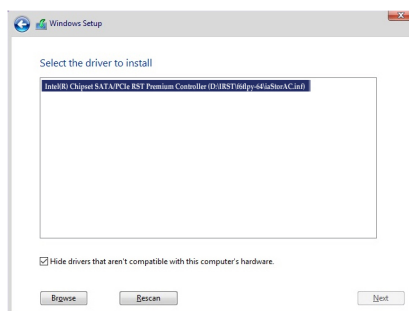

Figure 1
When a screen as shown in Figure 1 appears, select **Intel(R) Chipset SATA/PCIe RST Premium Controller (D:\IRST\6f1py-x64\AstorAC.inf)** and click **Next** to load the driver and continue the OS installation.